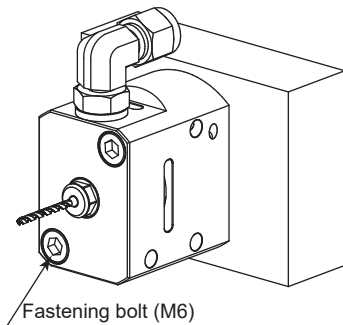

Fig. 18
- (1) Insert the spindle body housing (diameter  $\phi$  26 mm) section into the fixed base of the machine tool.
- (2) Secure the spindle through the mounting holes (2 locations) using the fastening bolts (M6). (Fig. 18)